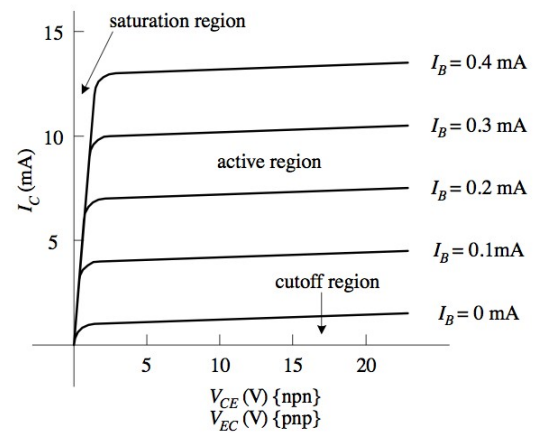

Figure 23: Bipolar transistor curve trace.
- 7) You can make a transistor characterizing device. You would also wire the second DAC, pin 17 on the inside row, to provide a base voltage, then trace out the emitter-collector response versus base voltage, like in *Figure 23*.